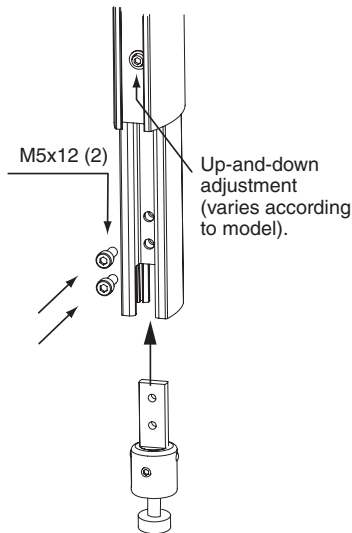

Figure 1
- ① Insert ball joint assembly into column. Secure using two 5 x 12 Allen-head screws (see Fig. 1).